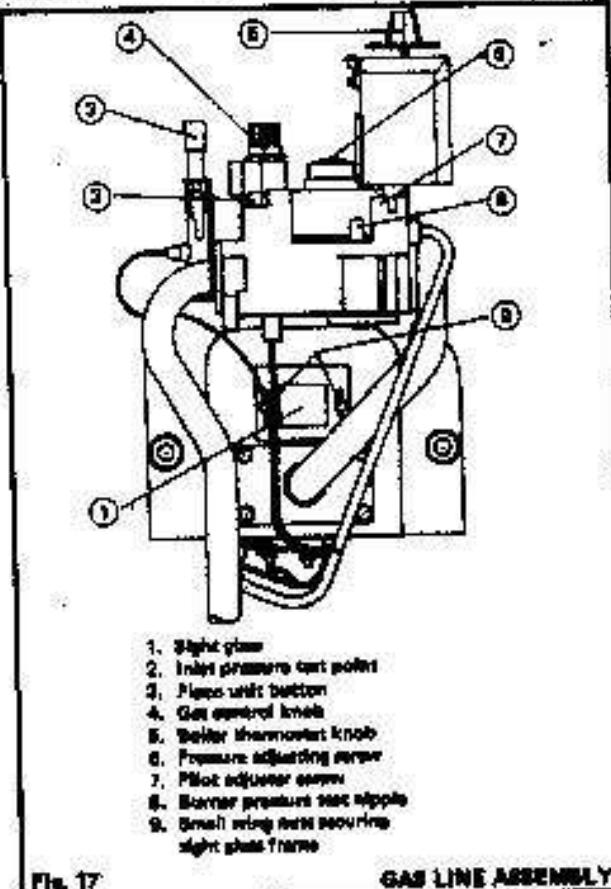

Fig. 17 GAS LINE ASSEMBLY
#### INITIAL LIGHTING INSTRUCTIONS (Refer Fig. 17)
4. Check the appearance of the pilot flame and, if necessary, make appropriate adjustment by use of the pilot adjuster screw, refer (7), Fig. 17 - 'Initial Lighting Instructions'.
2. The pilot flame covers 13mm (1/2in) of the thermocouple tip. Turn the adjuster screw (7) - Fig.17, anti-clockwise to increase the flame, and clockwise to decrease it.
Any required adjustments should be made by using the pressure adjustment screw (8) illustrated in Fig. 17.